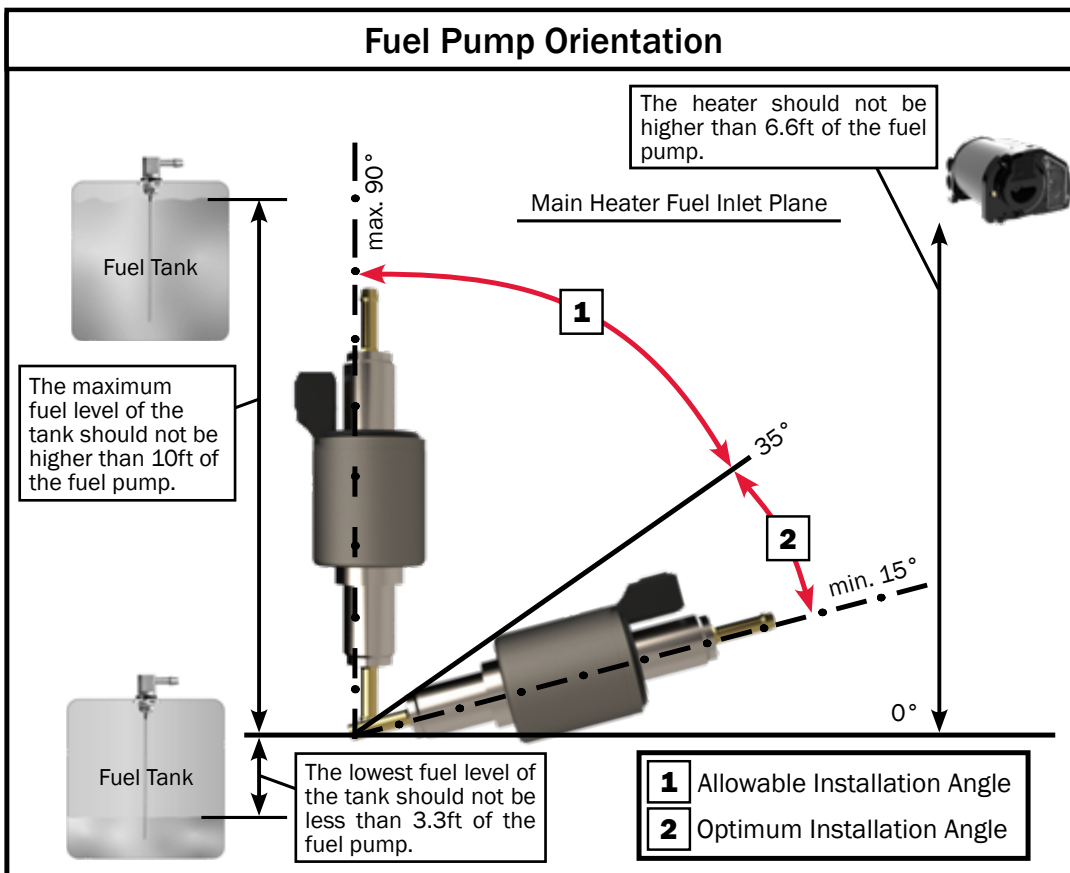

Figure 17
- Fuel Pump is required to be installed vertically. It is not recommended to mount the assembly rotated 180° (see Figure 17).